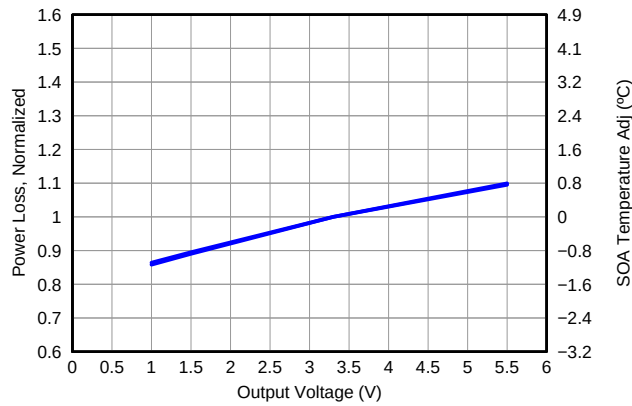

Figure 8. Normalized Power Loss vs Output Voltage
- Normalized power loss for output voltage ≈ 0.9 (Figure 8)
- SOA adjustment for output voltage $\approx -0.8^{\circ}\text{C}$ (Figure 8)